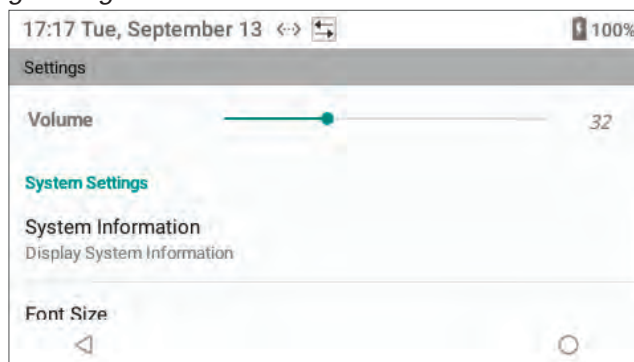

Figure 18: Adjusting Brightness and Beep Volume
- 2 Drag the **Volume** slider horizontally to the desired level (*Figure 18*).